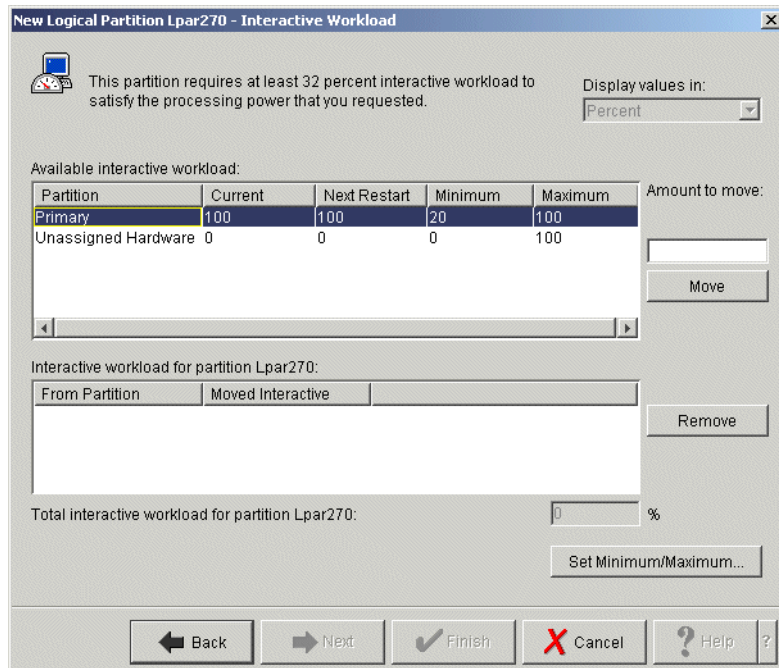

Figure 4-17 New Logical Partition - Interactive Workload window
14. The New Logical Partition - Interactive Workload window appears as shown in Figure 4-17.